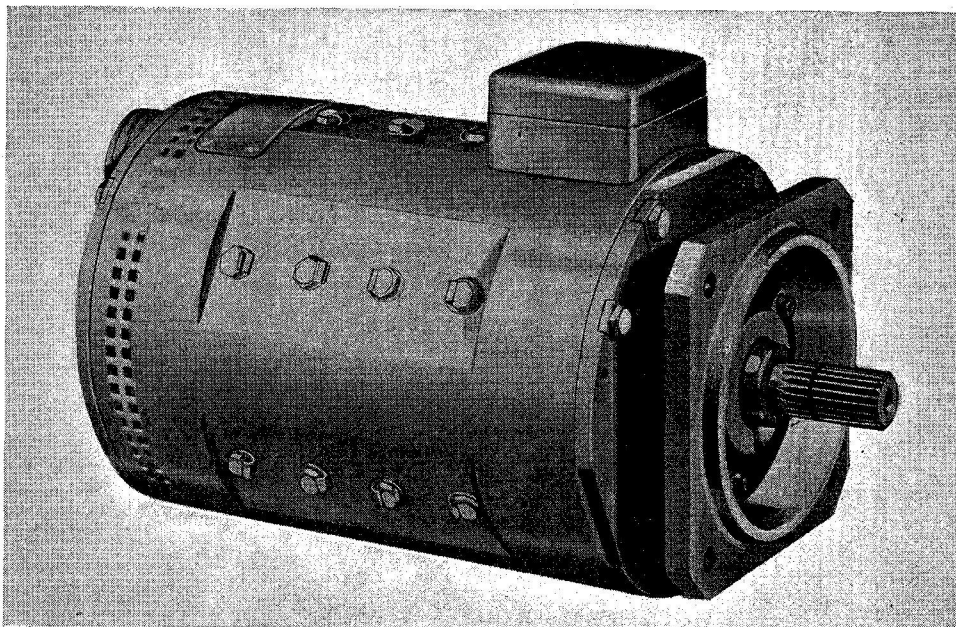

Fig. 1. General view of generator, Type YI
1. The Type Y1 alternating current generator (*fig. 1*) supplies an a.c. controlled output of 52.2 amperes at 115 volts  $\pm$  2 per cent, when connected through a Type 50 voltage regulator. The generator is designed for